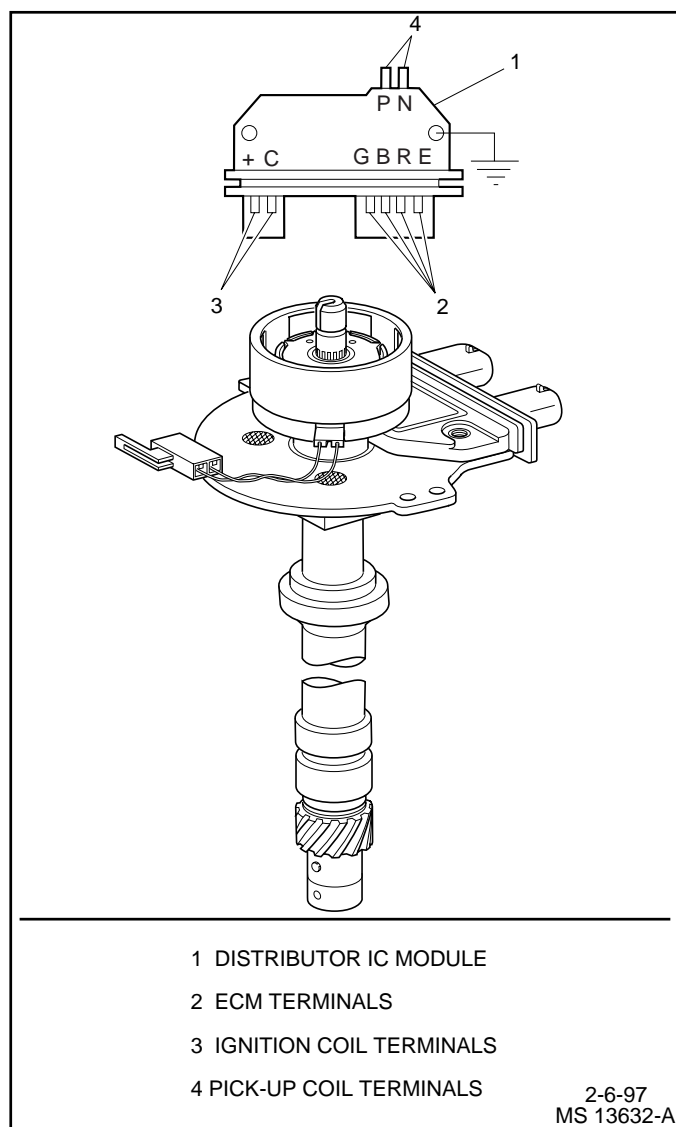

Figure 4-3 - IC Module Terminal Identification
The Ignition Control (IC) module is located in the distributor (Figure 4-3). It is mounted by two screws that are used for the ground. The IC module is a solid state unit with transistorized relays and switches for controlling circuits. The IC module has several functions: